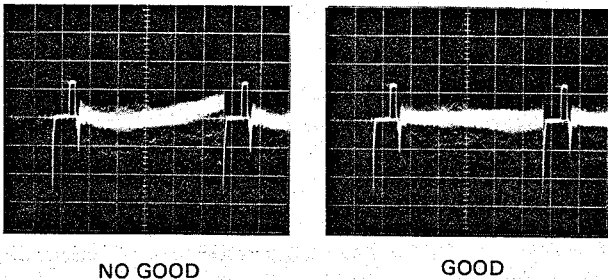

Fig. 6-4-30
(1) B signal horizontal shading adjustment
- Adjust B-H:SAW VR205 and B-H.PARA VR204 to make the waveform as flat as possible. (Fig.6-4-30)